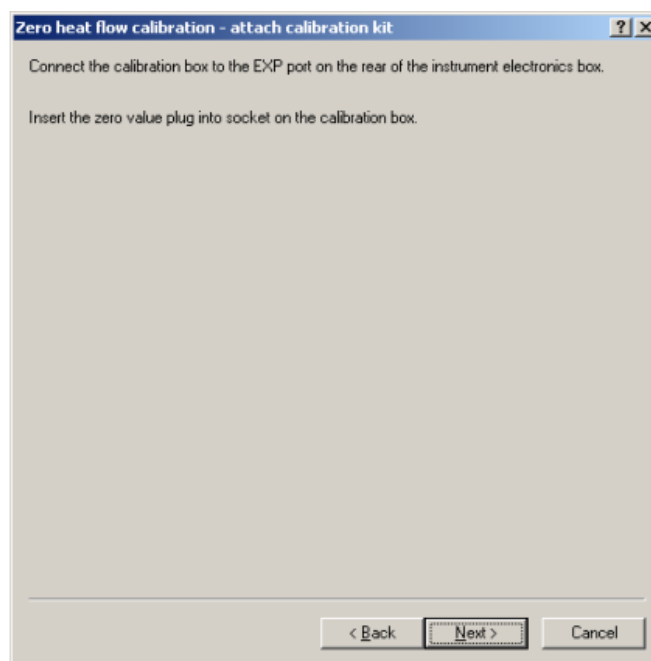
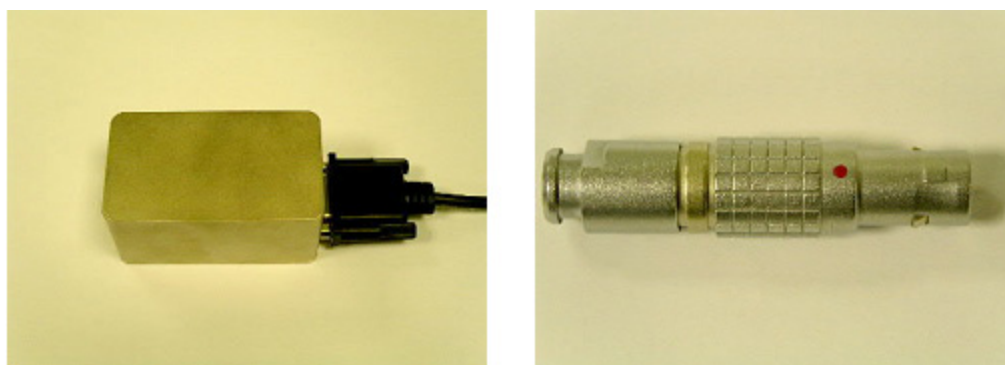

Figure 7.14
Figure 7.15
4. Click **Next**. A window similar to that shown in Figure 7.14 is displayed. Follow the instructions given. The Upper Heated Plate calibration box and zero value plug are shown in Figure 7.15 below.